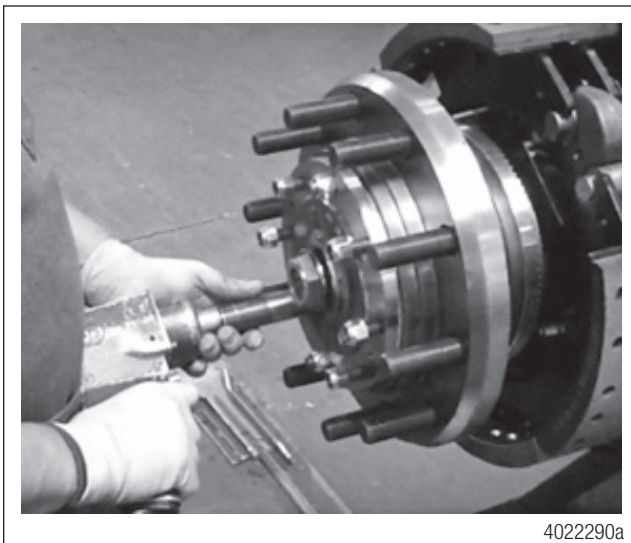

Figure 9
4. Remove the eight 1/2" drive flange lock nuts. Figure 9.